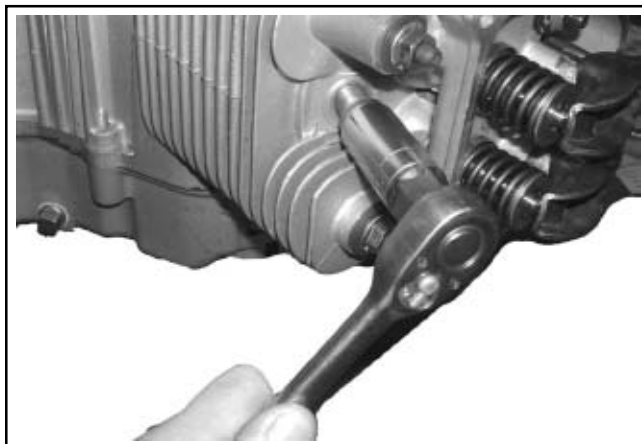

Figure 9-35. Removing Spark Plugs.
1. Remove the spark plug from each cylinder head. See Figure 9-35.